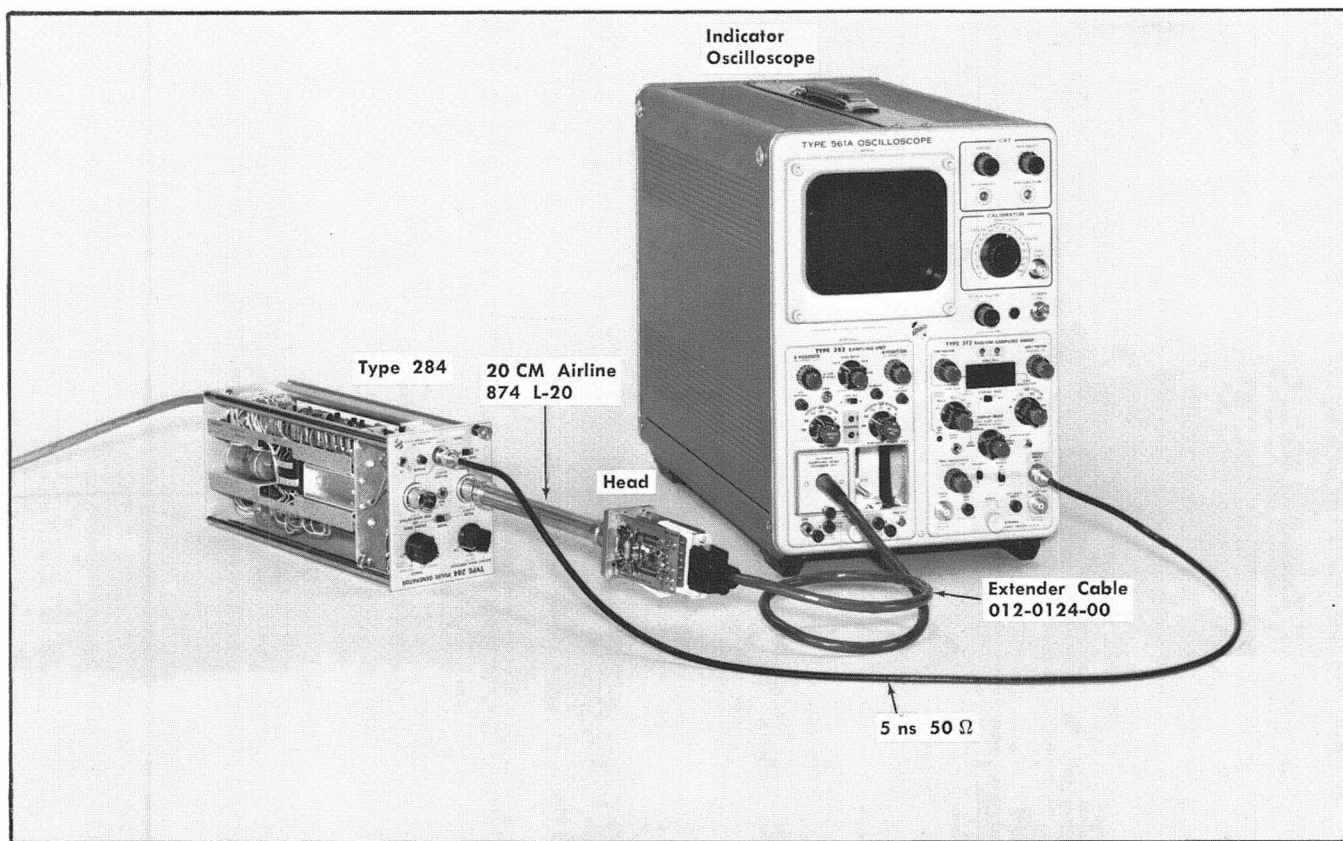

Fig. 5-4. Risetime check test equipment set-up.
Requirement—10% to 90% risetime is equal to or less than 75 ps, displayed as 103 ps or faster using the equipment setup shown in Fig. 5-4.
a. Connect the equipment shown in Fig. 5-4. The extender cable is recommended, although not required. The cable permits easy access to the Type 284 TD Bias screwdriver control which is adjusted as part of this step.
Connections in Fig. 5-4 are: